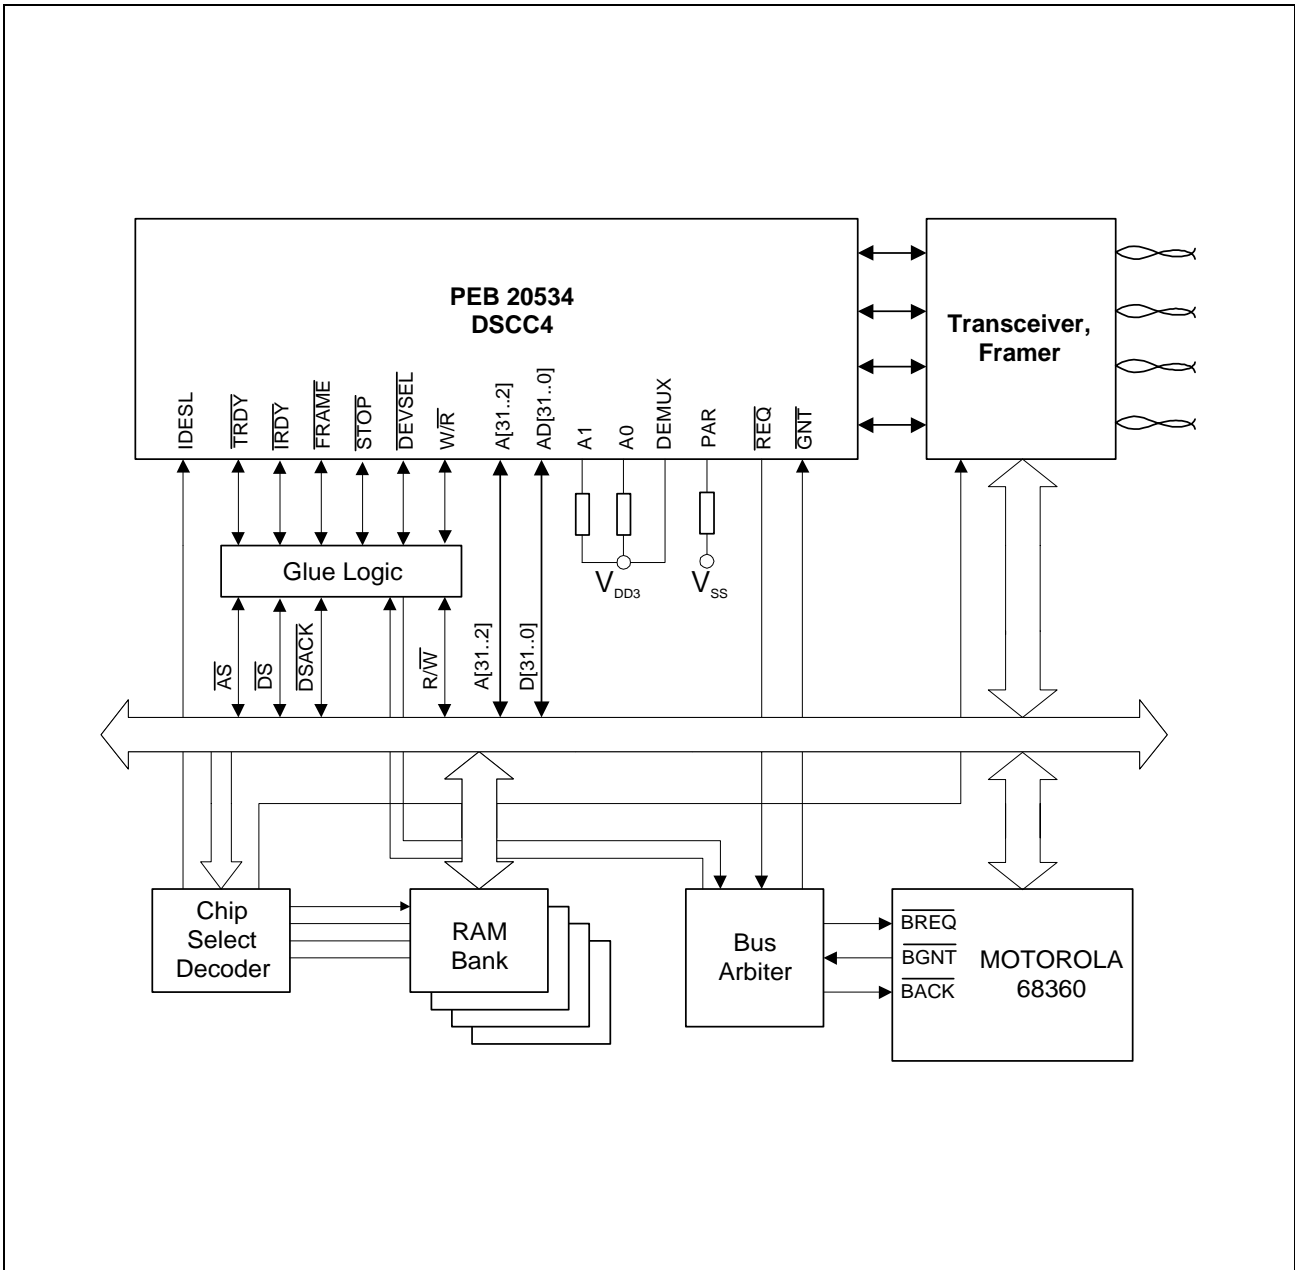

**Figure 2** General System Integration (PCI Bus Interface)
**Figure 2** provides a general overview upon system integration of the DSCC4 in a PCI bus environment: